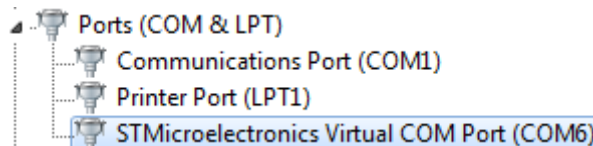

Figure 3.4. The SL-881 AVG Shown in Device Manager
3. If the dpinst driver is installed correctly, you can see the SL-881 is recognized by the Device Manager (as shown in Figure 3.4).